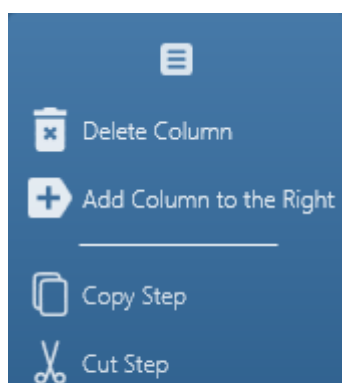

Figure 5-21 Column menu
- 14 Click on the column menu icon  to access the column menu (see Figure 5-21). With the column menu the user can: